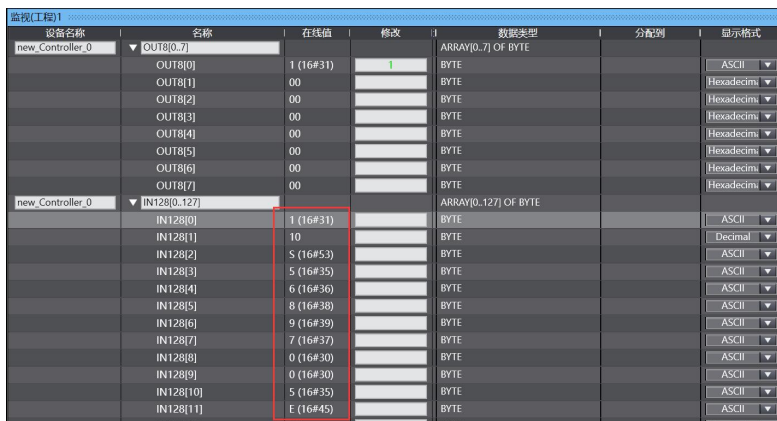

Fig100. PLC EIP-BC50 as an output
- PLC-EIP supports a maximum input of 128 characters. Click the global input variable to modify the display format of the corresponding byte, then the output of the reader will be displayed in the input variable byte by byte, see Fig 100.